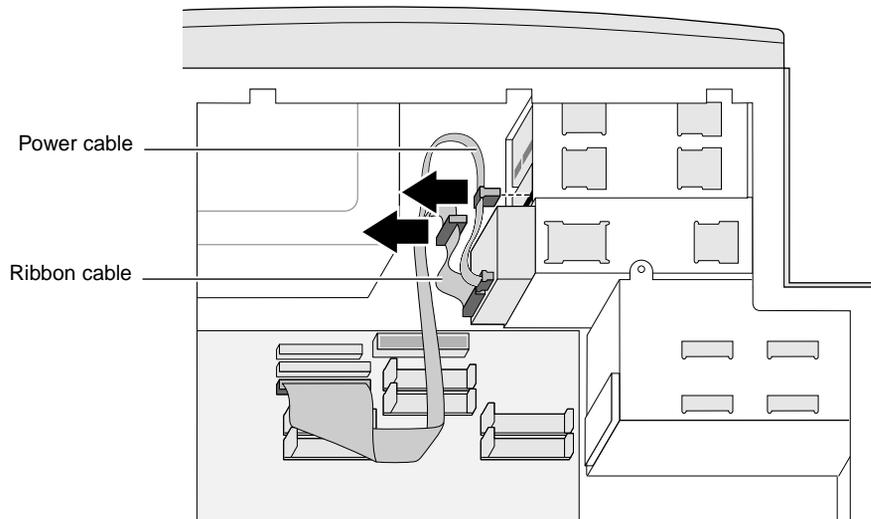

Figure 4-7 Disconnecting the Cables from a Removable Media Drive
4. Disconnect the power and ribbon cables from the back of the drive, as shown in Figure 4-7.